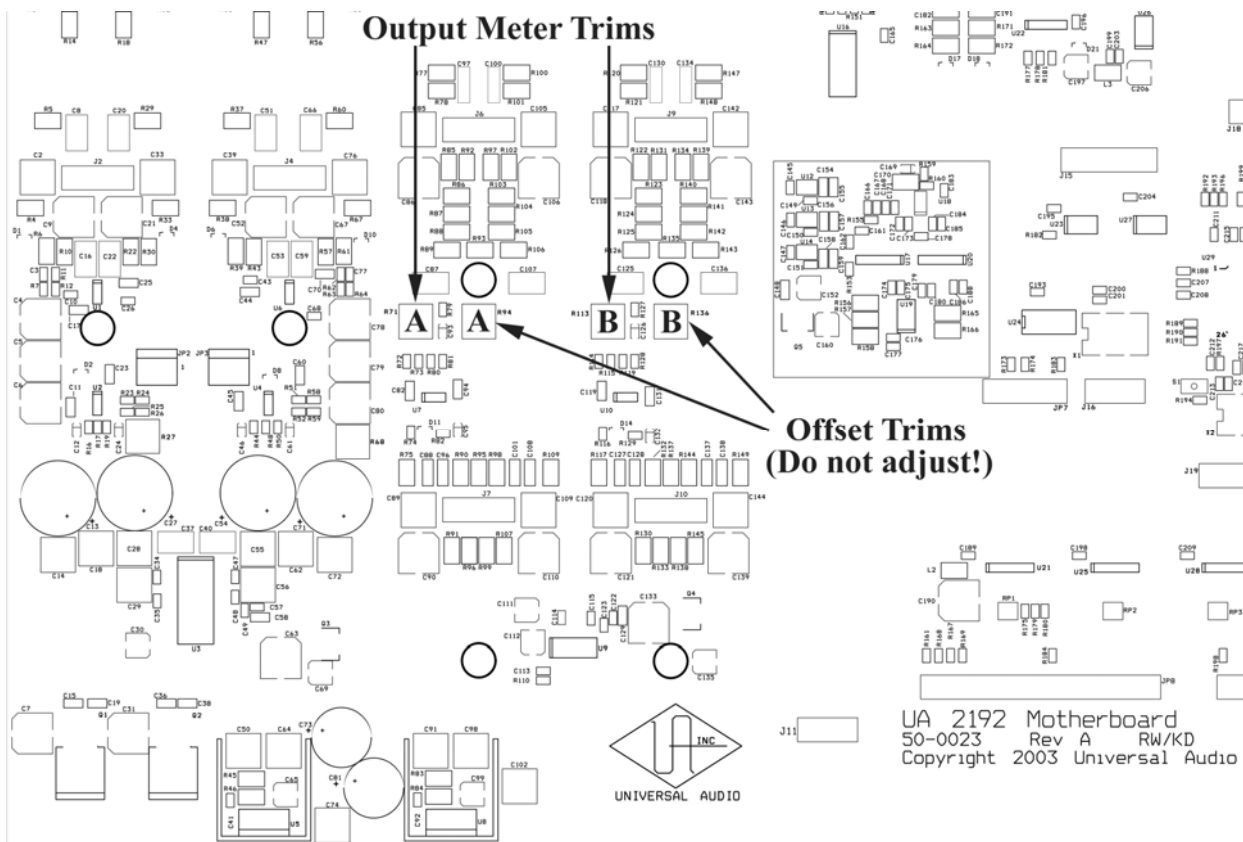

Figure 4: Output Level Meter Calibration Trimpots
6. Adjust the left channel output meter using Output Meter Trim A* (see Figure 4 below for location) so that the -1 8dB segment on the meter just lights up.
7. Adjust the right channel output meter using Output Meter Trim B* (see Figure 4 below) so that the -1 8dB segment for the right channel just lights up.